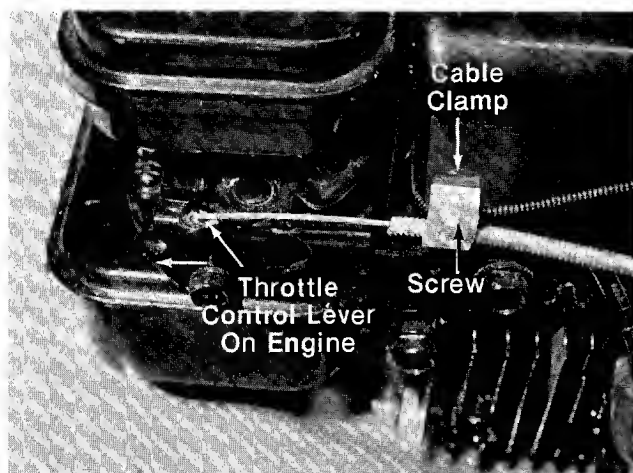

FIGURE 8.
11. Push the throttle control lever on the engine to the full open position (as far toward the outside of the unit as it will go) as shown in figure 8.
13. Loosen (do not remove) the screw on the cable clamp shown in figure 8. Slip the control casing under the clamp. With the throttle lever on the engine still in the full open position, tighten the screw to secure the throttle control cable.